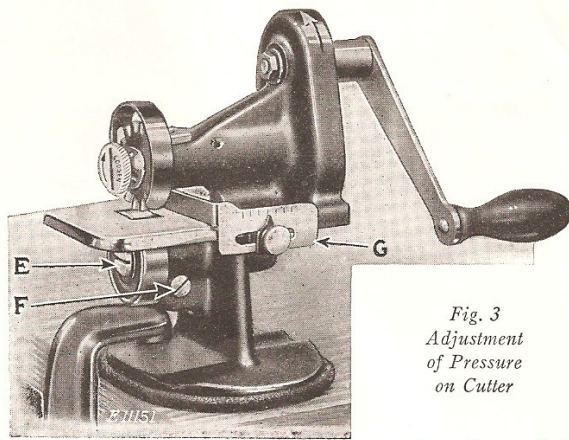
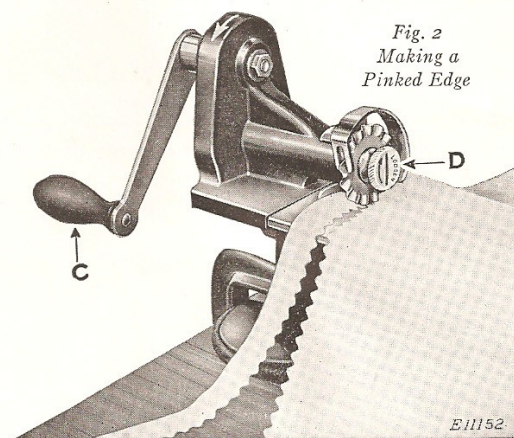

Fig. 3
Fig. 2
This cutter neatly cuts material, whether bias or straight, into strips, the widths of which are regulated by the Cloth Guide (G, Fig. 3) attached to the Pinking Machine.
The cutter wheel requires no sharpening or other attention, but it may wear down in time so that the material will not be cleanly cut. This wear may be taken up by loosening the clamp screw (F, Fig. 3) and turning the eccentric spindle (E, Fig. 3) either to the right or to the left to bring the roller in closer contact with the cutter. The pressure between the roller and cutter should not be heavier than necessary to make a clean cut. When the correct pressure is obtained, securely tighten the clamp screw (F, Fig. 3).
Loosen the clamp screw (F, Fig. 3) and turn the eccentric spindle (E, Fig. 3) to relieve the pressure of the roller against the cutter. While holding the handle (C, Fig. 2) with one hand, with the other remove the thumb nut (D, Fig. 2) by turning it with a screwdriver in a "clockwise" direction as indicated by the arrow on the thumb nut; then remove the cutter. When replacing the cutter, see that the pin in the inside washer enters the hole in the cutter. When replacing the thumb nut (D), turn it in a "counter-clockwise" direction and securely tighten with a screwdriver. Restore the pressure of the roller against the cutter by turning the eccentric spindle (E, Fig. 3), then tighten the clamp screw (F, Fig. 3).